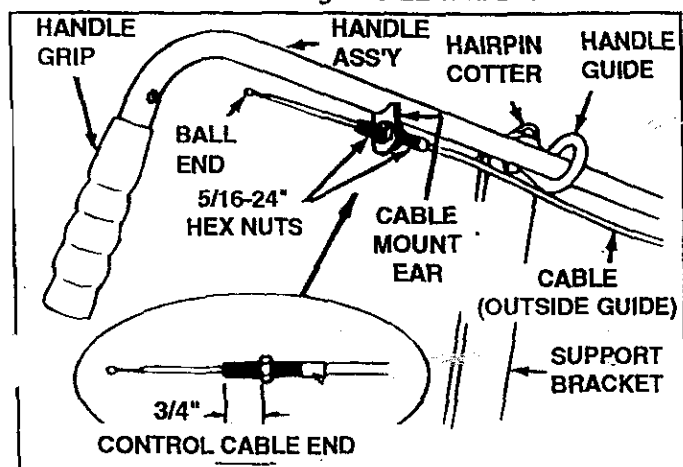
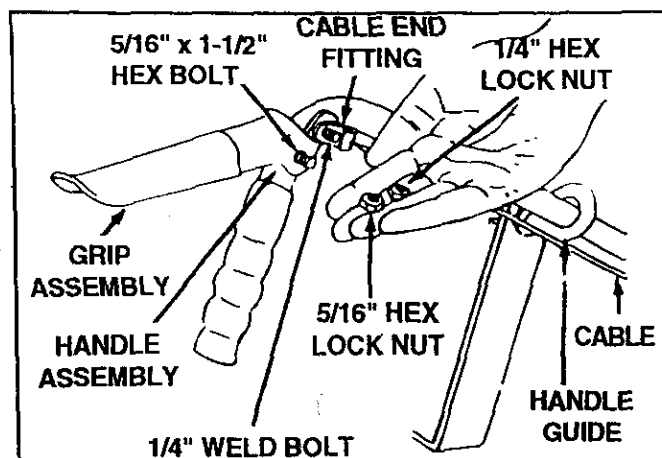

FIGURE 23
FIGURE 25
24. Assemble handle assembly down through handle guide as shown in figure 23. Secure lower end of handle to top side of blade pivot bracket with special shoulder bolt (on top) and 3/8\"
26. Assemble handle grip on upper end of handle assembly if not already pre-assembled. See figure 23.
29. Assemble ball end of cable (see figure 23), through round hole in cable end fitting and into slot of fitting. See figure 25. Assemble cable end fitting over 1/4\"